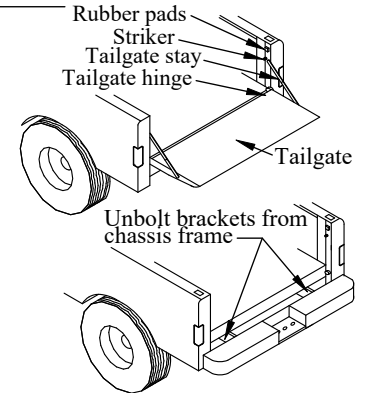

Figure 6: Remove Hardware.
- Remove** the tailgate and tailgate hardware (Figure 6).